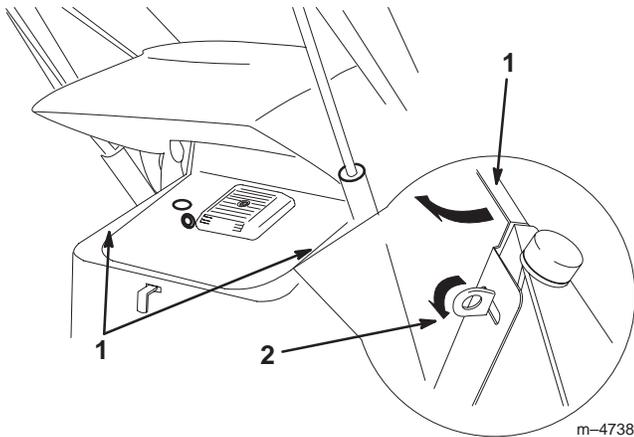

Figure 21
- Pull out and turn the two locking tabs on the inside of the side screen until they line up with the slots in the screen (Fig. 21).
- Slide the slots in the screen over the locking tabs (Fig. 21).
- Turn the tabs and fold them down to lock the screen in place (Fig. 21).